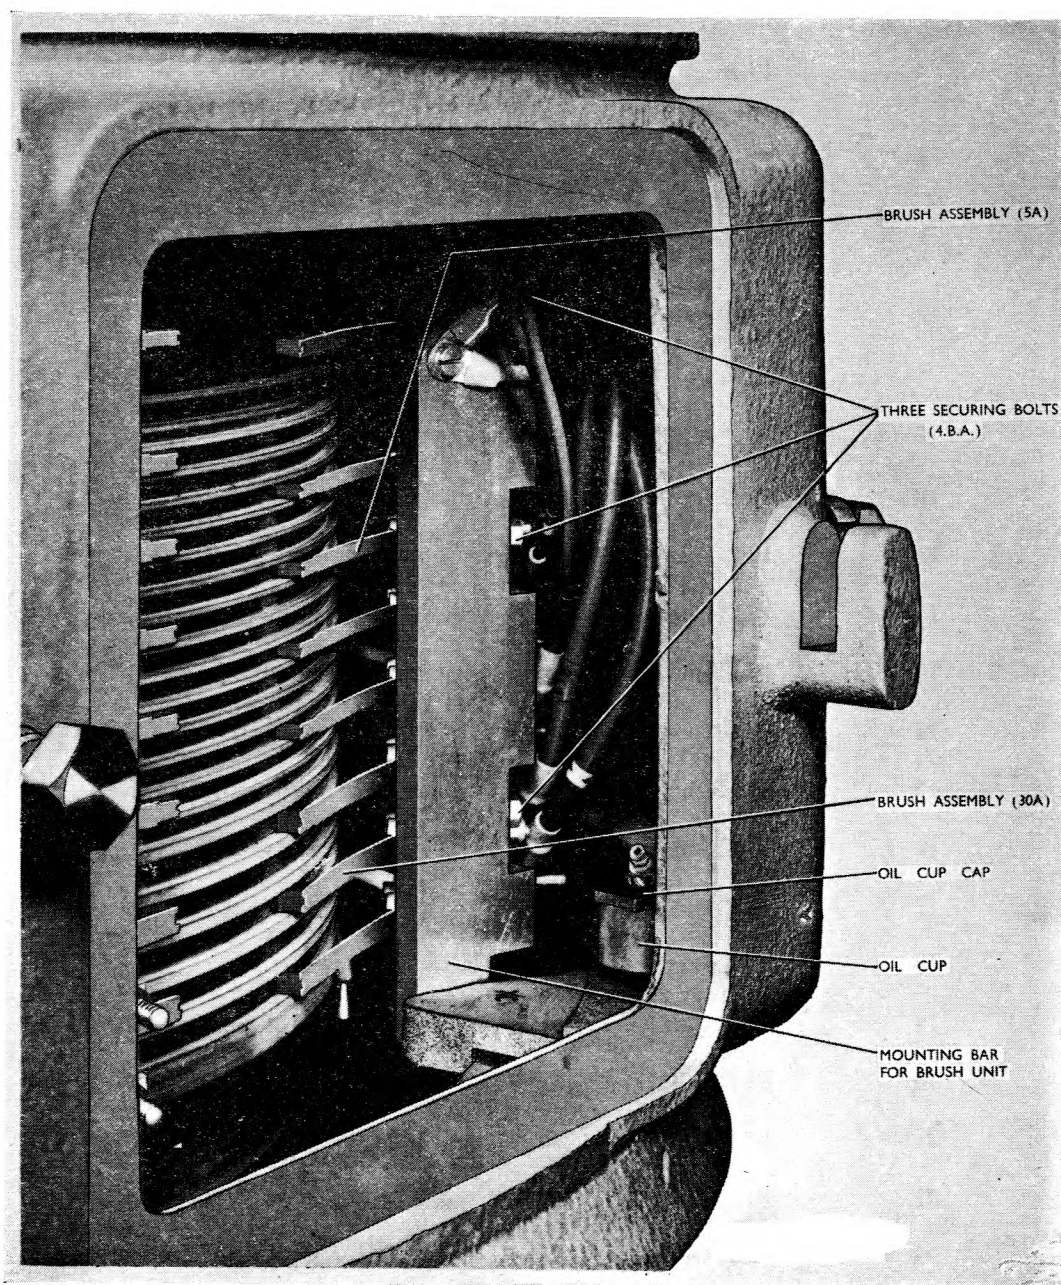

Fig. 4. Brush block unit mounting
22. The slipring chamber is kept dry and accumulation of brush dust is delayed by a dry air blast from an air distribution pipe in the chamber which is fed by a nylon air bleed tube connected to the L-band pressurized coaxial section of the rotating joint at a bleed valve adaptor. This adaptor is simply a reduced section, of No. 48 drill size, to control the rate of air flow. It is normal for a high pitched whistle to be heard when air at the correct pressure is being blown through the distribution pipe. A silicone rubber seal between the fixed and rotating parts of the slipring chamber casing prevents dirt or moisture from entering the chamber and at the same time allows the air blown from the air distribution pipe to leak out. The seal is lubricated from an oil-charged felt pad fed with light oil from six oil cups, one of which can be seen just inside the bottom right-hand corner of the hatch opening in fig. 4. Each oil cup cap is fitted with a nipple set at 45° so that the oil (9150-99-910-0570